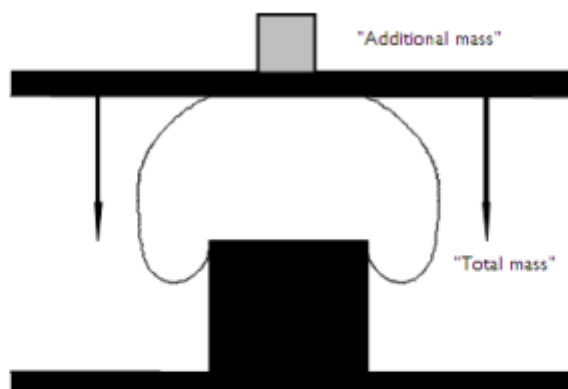

Figure 32. Abdomen Certification Test Set-Up
2. Place the "additional mass" (8.05 ± 0.025 kg.) on the top plate. Let the force exerted by this mass apply as indicated in Figure 32. This must be done within 10 seconds after placing the initial load.